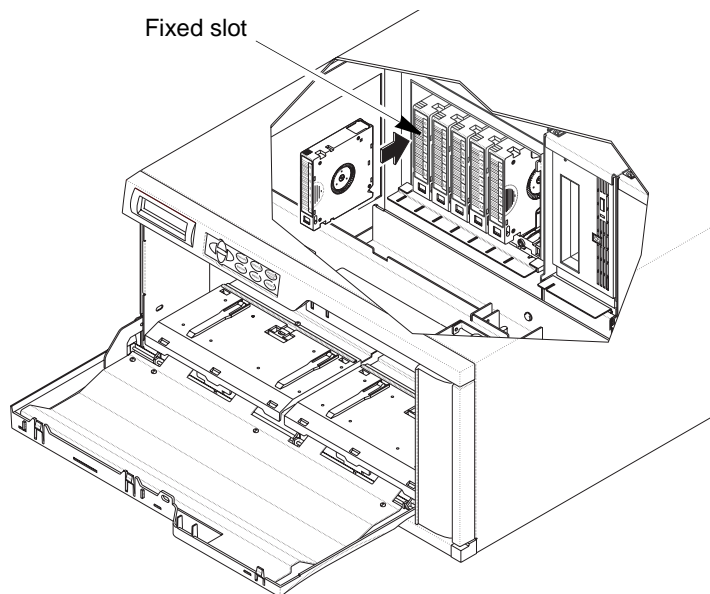

Figure 2-5 Installing cartridges in the fixed slots
3. Install cartridges into the fixed slots, with the write-protect switches down and facing out, as shown in Figure 2-5.